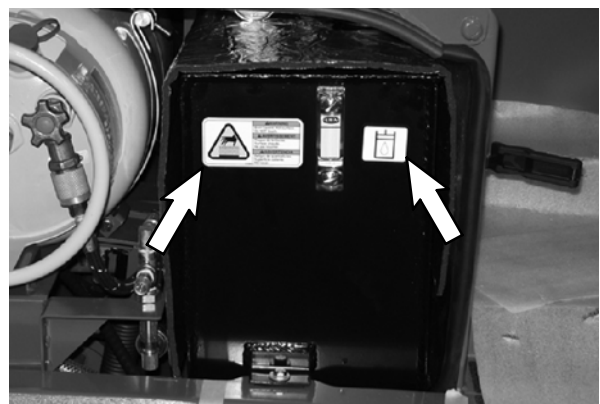

FIG. 9
22. Install the labels (12) and (25) onto the hydraulic reservoir. Refer to Fig. 9.